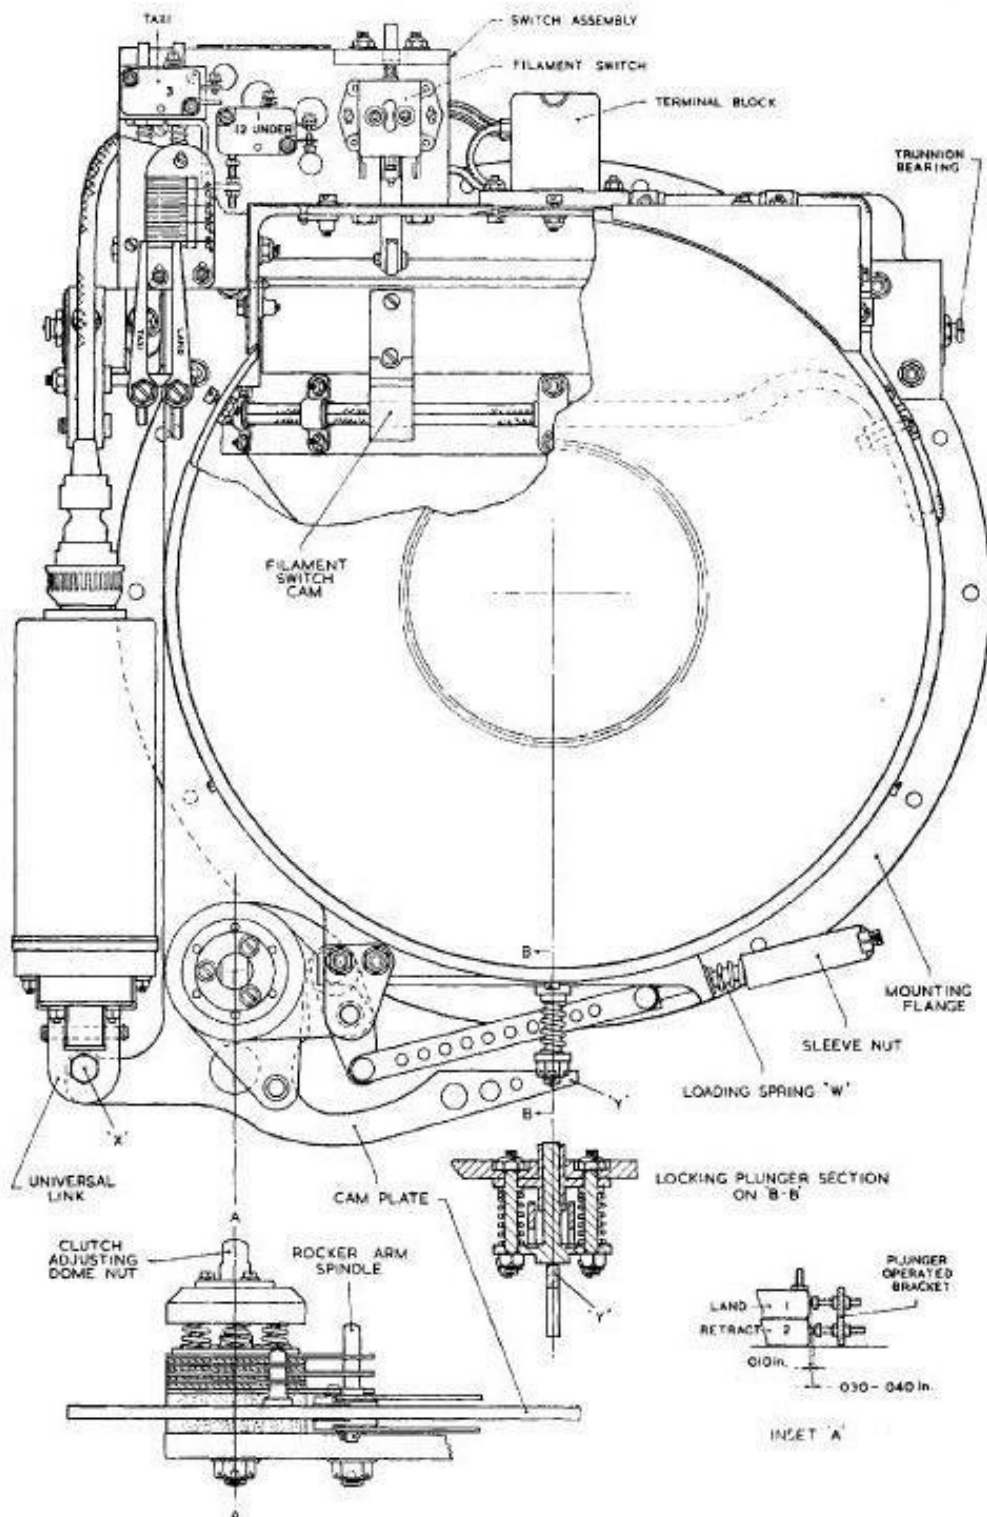

Fig. 3. Plan view, part sectioned
15. The filament housing is power operated by a Western, Type EOJ.150, Mk. 3, actuator details of which will be found in Chap. 7 of A.P.4343D, Vol. 1, Bk. 3, Sect. 14. The plunger of the actuator is coupled to the forked end of an actuating lever clamped to the journal of the filament housing. The trunnion end of the actuator is coupled by a universal link to one arm (*point X, fig. 3*) of a double ended lever formed by the steel cam plate of the "blowback" mechanism. In normal operation the cam plate is held fixed by a roller, engaging a toe at the cam edge, and under pressure from the spring "W," but in certain circumstances, it can pivot about the centre (AA) of the friction clutch. The other arm of the cam lever bears against the spring-loaded locking plunger (*point Y, fig. 3*), at the rear of the outer frame.